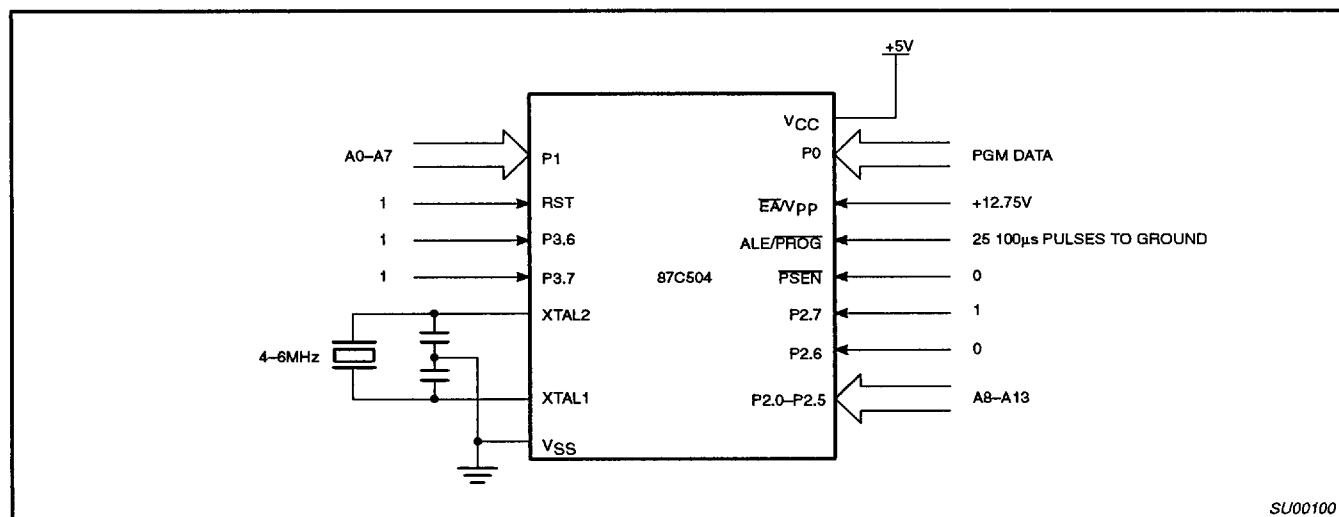
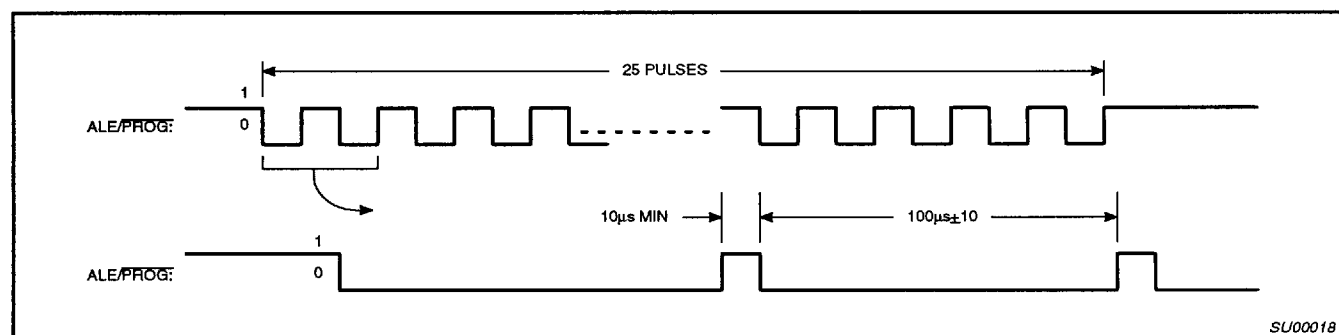
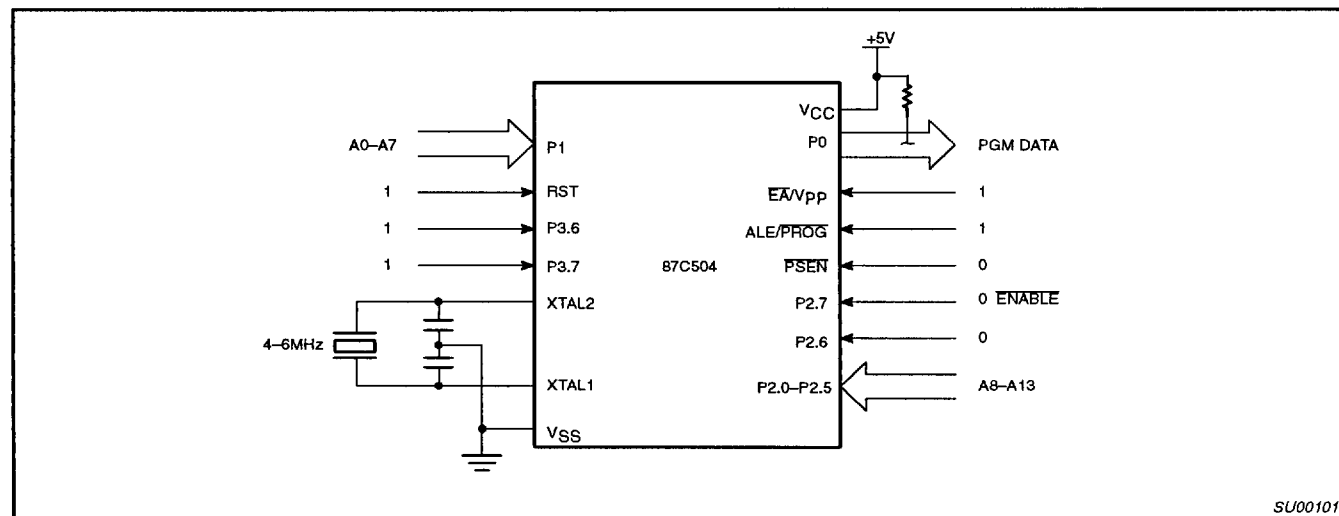

Figure 13. Programming Configuration
Figure 14. PROG Waveform
Figure 15. Program Verification
Table 3 shows the logic levels for reading the signature byte, and for programming the program memory, the encryption table, and the security bits. The circuit configuration and waveforms for quick-pulse programming are shown in Figures 13 and 14. Figure 15 shows the circuit configuration for normal program memory verification.
The setup for microcontroller quick-pulse programming is shown in Figure 13. Note that the 87C504 is running with a 4 to 6MHz oscillator. The reason the oscillator needs to be running is that the device is executing internal address and program data transfers.
The address of the EPROM location to be programmed is applied to ports 1 and 2, as shown in Figure 13. The code byte to be programmed into that location is applied to port 0. RST, PSEN and pins of ports 2 and 3 specified in Table 3 are held at the 'Program Code Data' levels indicated in Table 3. The ALE/PROG is pulsed low 25 times as shown in Figure 14.
If security bit 2 has not been programmed, the on-chip program memory can be read out for program verification. The address of the program memory locations to be read is applied to ports 1 and 2 as shown in Figure 15. The other pins are held at the 'Verify Code Data' levels indicated in Table 3. The contents of the address location will be emitted on port 0. External pull-ups are required on port 0 for this operation.
- * FOR PROGRAMMING VERIFICATION SEE FIGURE 13.
FOR VERIFICATION CONDITIONS SEE FIGURE 15.